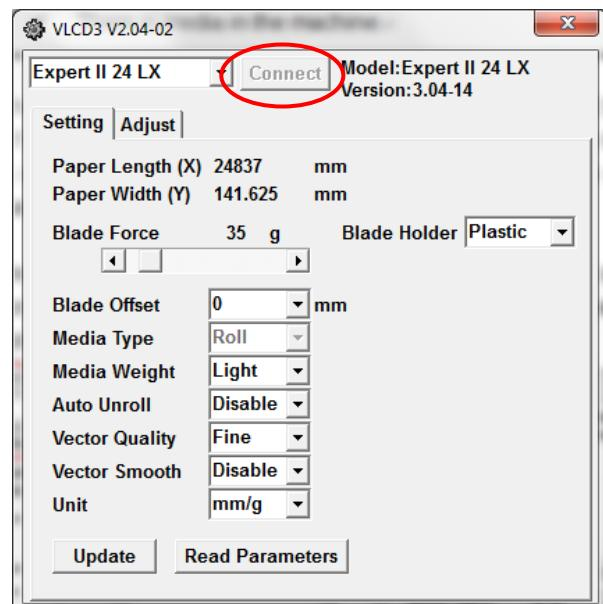

Figure 3-3
**Step 4** Press the **Connect** button to connect your computer and the cutter. If the connection succeeds, the model info, firmware version, and adjustable parameter columns will be showing (Figure 3-3).